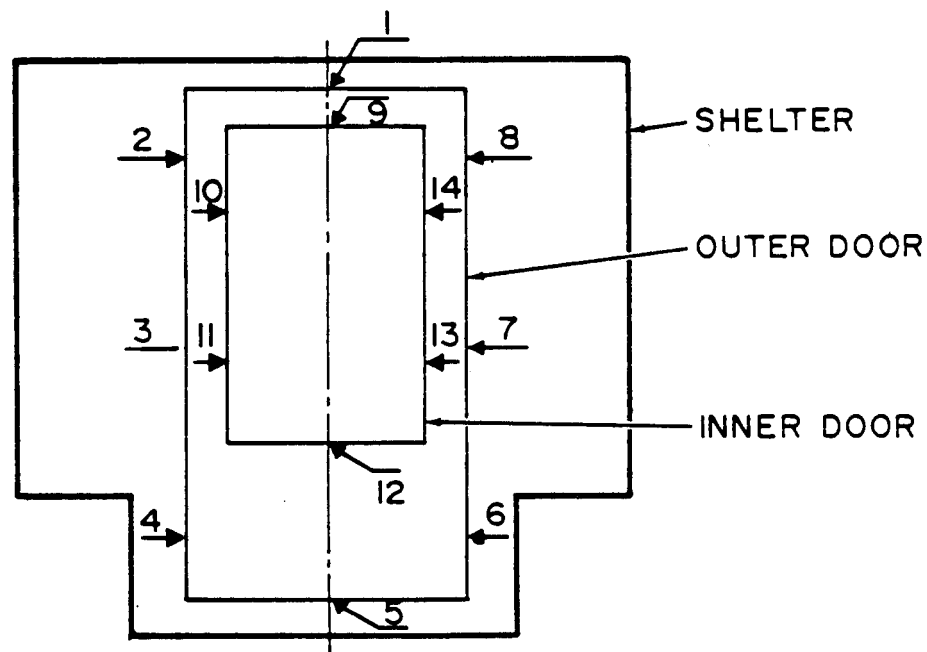
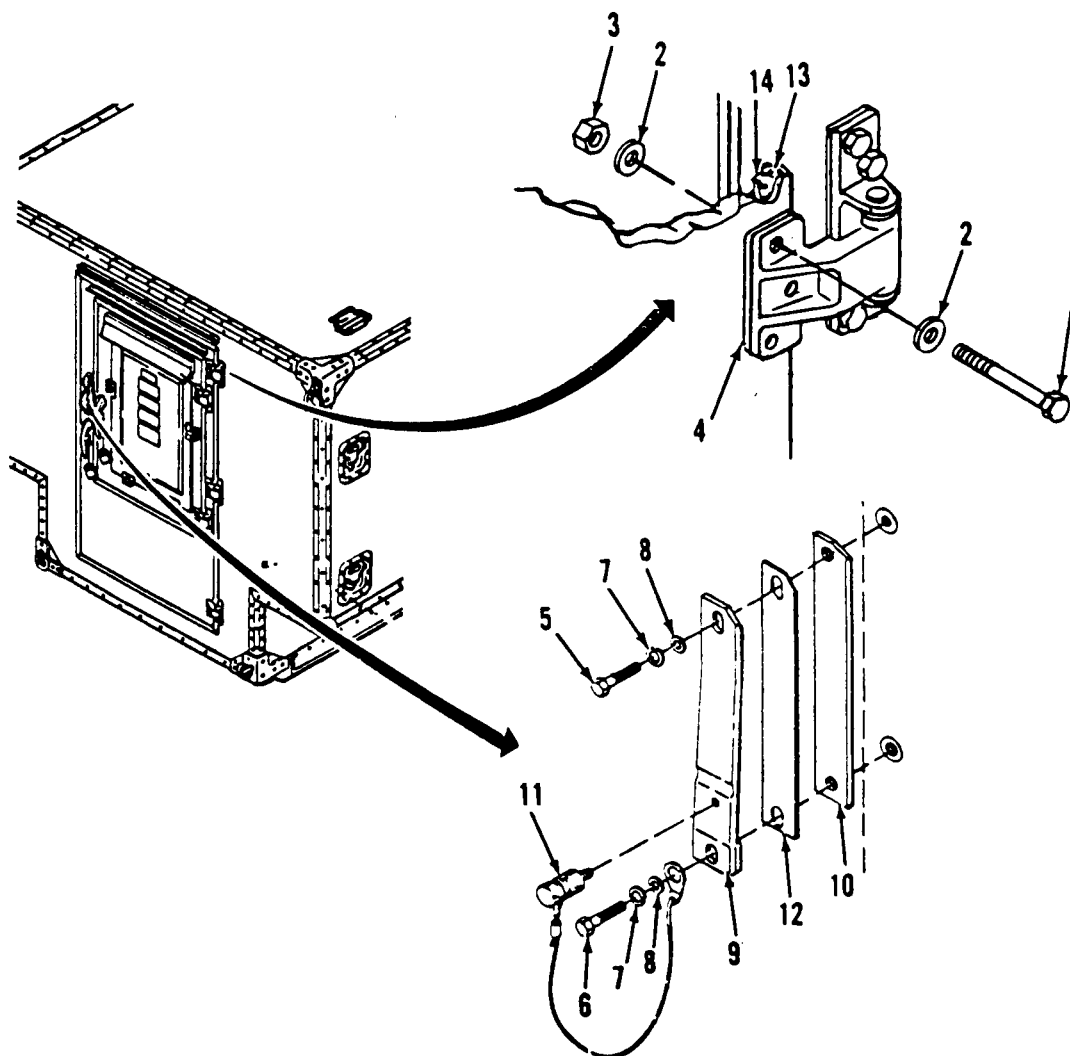

Figure 3-19. Typical Locations for Door Gasket Testing.
Figure 3-20. Weather Gasket and Seal Pressure Adjustment.
*a .* *Inspect.* (Figure 3-20)
- (1) Inspect the door assembly (2) for external damage.
- (2) Inspect the silicone weather gasket (15) for tightness.
- (3) Inspect the RFI/EMI gasket for wear and secure mounting.
*b .* *Test.* (Figure 3-19) Test of the door assembly consists of testing for proper seal pressure on the silicone weather gasket. The procedure listed below shall be performed at the center top and bottom of the door, and three places along each side of the door, as shown in Figure 3-19.
- (1) Place a single piece of paper (0.005 inches maximum thickness by 2-1/2 inches wide) between the silicone weather gasket and its bearing surface.
- (2) Close and lock the door.
- (3) Withdraw the paper. Resistance to the withdrawal of the paper indicates proper seal pressure. If there is no resistance, perform the adjustment procedure contained in the following paragraphs.
- (4) If there is resistance to the withdrawal at all of the test points, sufficient seal pressure exists on the silicone weather gasket and adjustments are not necessary.
*c* . Adjust. (Figure 3-20) Adjustment to increase the seal pressure on the silicone weather gasket can be made on the hinged side of the door and on the roller latch side of the door, as described in the following paragraphs:
- (1) Weather Gasket Pressure Adjustment. To increase the weather gasket pressure on the hinged side of the door, proceed as follows
- (a) Open the door and remove and retain three bolts (1), six flat washers (2), and three self-locking nuts (3) attaching the hinge to the door.
- (c) Insert shim (4), approximately 0.032 inches thick and matching the hinge body in size, between the hinge leaf and the door.
- (d) Secure the hinge leaf to the door using three bolts (1), six flat washers (2), and three self-locking nuts (3).
- (f) After completion of adjustment procedure, apply a continuous bead of sealer around shim (4) and hinge leaf, and around head of bolts (1).
- (2) Seal Pressure Adjustment. To increase the seal pressure on the roller latch side of the door, proceed as follows
- (a) Open the door and remove and retain the hex head screws (5 and 6), flat washers (7), and lock washers (8) from the top and bottom hole attaching the keeper (9) to the wall, and remove keeper and shim (10). Remove detent pin (11) from center keeper.
- (b) Add a 0.032 inch shim between the keeper (9) and the shelter.
d. **Replace.** (Figure 3-20) To replace the RFI/EMI gasket (13), remove gasket from track and clean track of any dirt. Place new gasket over track and snap in place. To replace the silicone weather gasket (14), proceed as follows
- (1) Remove gasket (14) and clean track from adhesive residue.
- (2) Apply sealer in track groove all around door and snap new gasket in place in track on door.